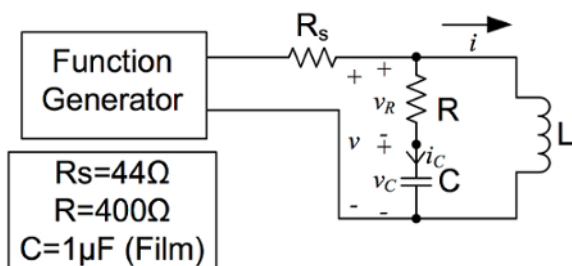

Figure 1: Test circuit to determine the B-H curve of an inductor. Please click here to view a larger version of this figure.
In order to measure the time-integral of  $v$ , a simple R-C circuit in parallel with the coil can be used (Fig. 1). The R-C divider should have  $R \gg X_C$  at the operating frequency so that  $v_R \approx v$ . Using this assumption, measuring the capacitor voltage  $v_C$  gives a reasonable approximation of the time integral of  $v$  since,
2. Build the circuit in Fig. 1 on a proto-board, but keep the function generator output disconnected from the proto-board.
2. Place the inductor in the circuit shown in Fig. 1, which should still be intact from the previous part of the experiment.